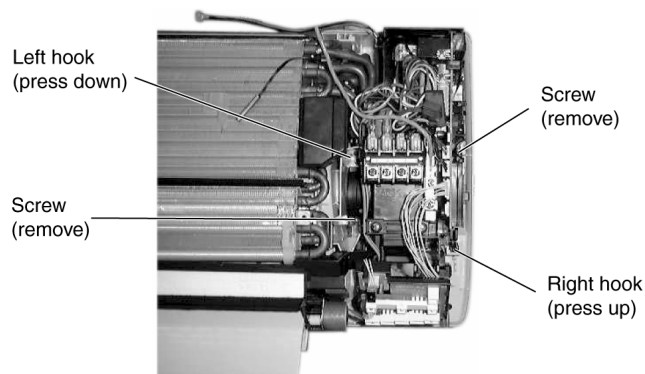

Fig. 3
- Unhook and release the terminal board. (Fig. 3)
- Remove the right and left screws. (Fig. 3)
- Then remove the control board by pressing down the hook at the left and press up the right hook. (Fig. 3)